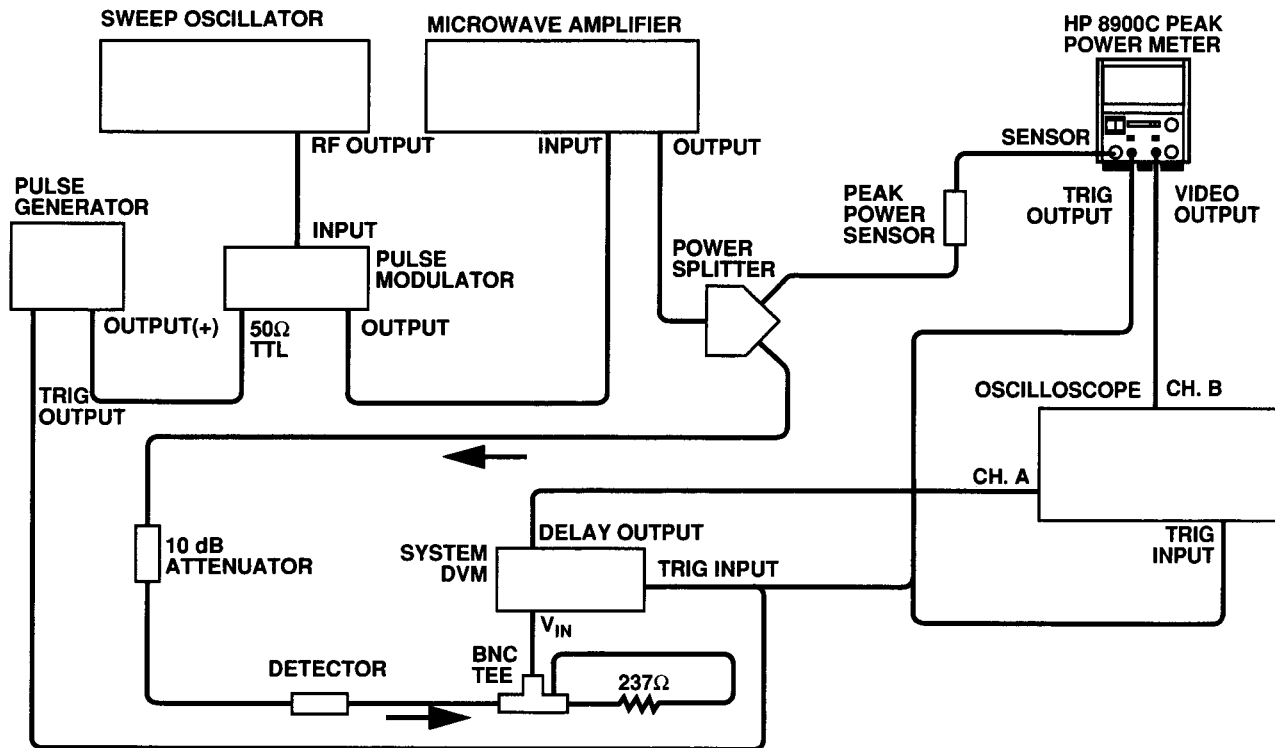

Figure 4-3. Peak Power Measurement Accuracy
1. Reconfigure the test setup as in Figure 4-3. Set the step attenuator to maximum attenuation. Set the pulse generator for 10 μs pulsewidth, and 1 kHz repetition rate. Set the Peak Power Meter to DIRECT mode. Adjust the frequency slightly to obtain the sharpest looking square wave on the oscilloscope. This adjustment will compensate for mismatch and standing waves.
1. Reconfigure the test setup as shown in Figure 4-3. Adjust the pulse generator for a +5 volt pk output, 100 Hz repetition rate and 1 μs pulse width. Adjust the sweep oscillator for 6 GHz, or the frequency of interest. Adjust the signal source for an indicated power level of 100 mW on the Peak Power Meter. Set the oscilloscope to 10 ms/div, channel A (video out) to 0.5 V/div and channel B (delay out) to 5 V/div. Set the oscilloscope's trigger to external and positive, and set the display mode to chop. The pulse modulator should be set to normal, 50 Ω TTL. Set the system voltmeter to external trigger, 1 volt range and delay equal to 0.000002 seconds. Adjust the sweep oscillator frequency slightly to obtain the squarest pulse with no overshoot.